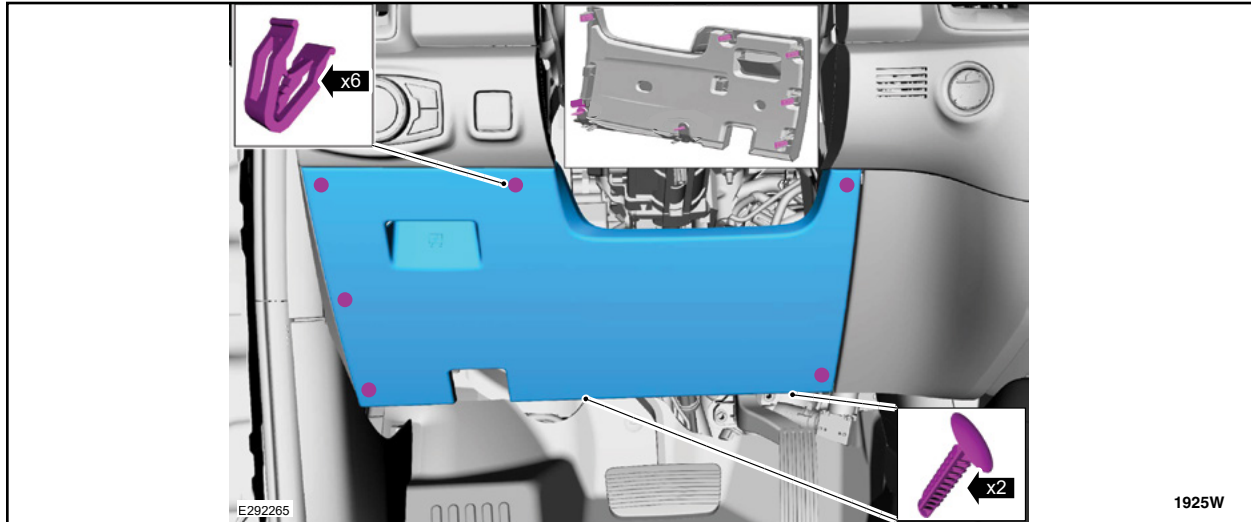

FIGURE 34
37. Install the steering column opening trim panel. See Figure 34.